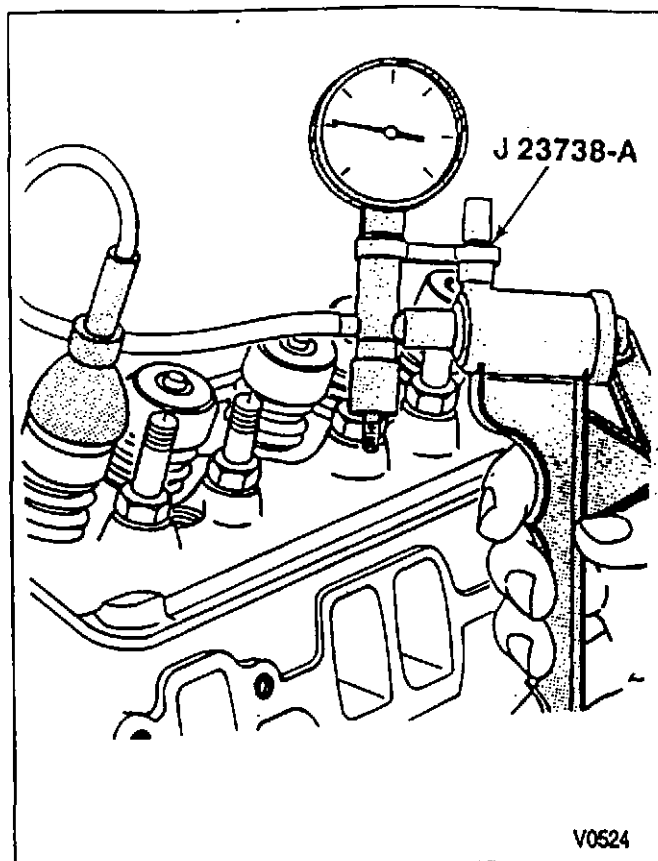

Figure 29—Checking the Valve Seals
Assemble (Figures 29)
- O-ring seals for leakage (figure 29).